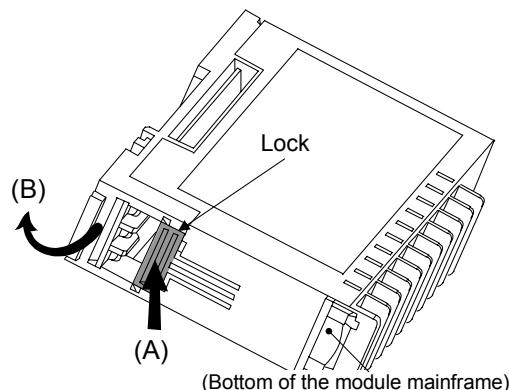

Fig. 1: Removing the base
- Remove the base from the module (B) while the lock is pressed (A). (Fig.1)